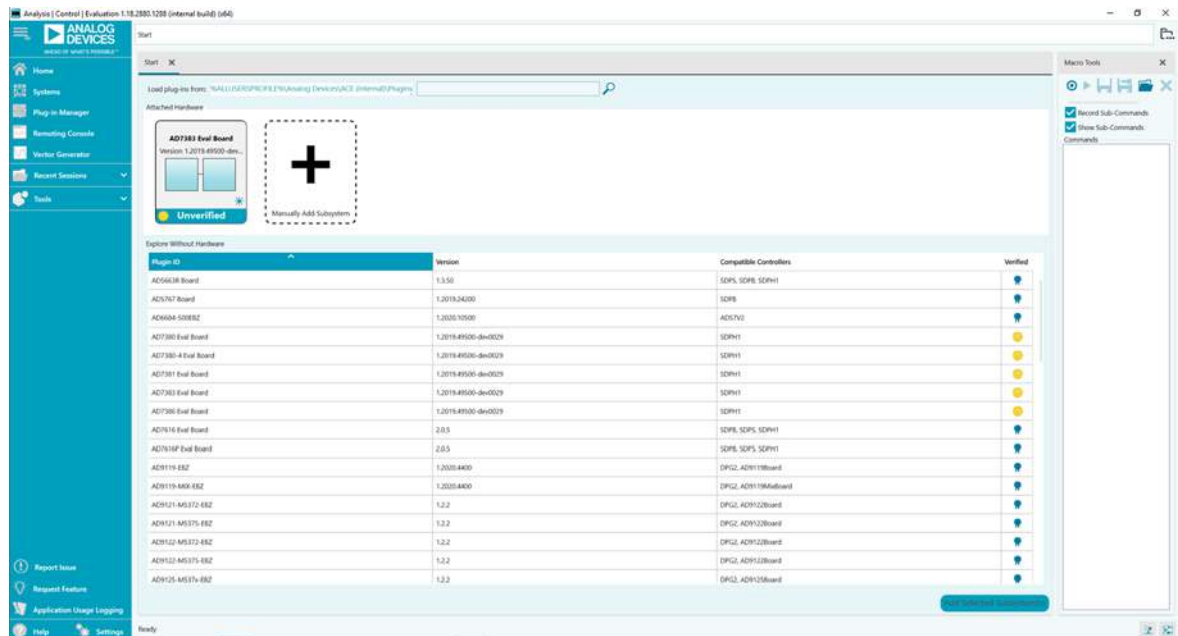

Figure 12. ACE Software Main Window
1. From the **Start** menu of the PC, select **All Programs > Analog Devices > ACE > ACE.exe** to open the ACE software main window shown in Figure 12.
2. If the EVAL-AD7383FMCZ is not connected to the USB port via the SDP-H1 when the software launches, the **AD7383 Eval Board** icon does not appear in the **Attached Hardware** section in ACE (see Figure 12). To make the **AD7383 Eval Board** icon appear, connect the EVAL-AD7383FMCZ and the SDP-H1 to the USB port of the PC, wait a few seconds, and then follow the instructions in the dialog box that opens.